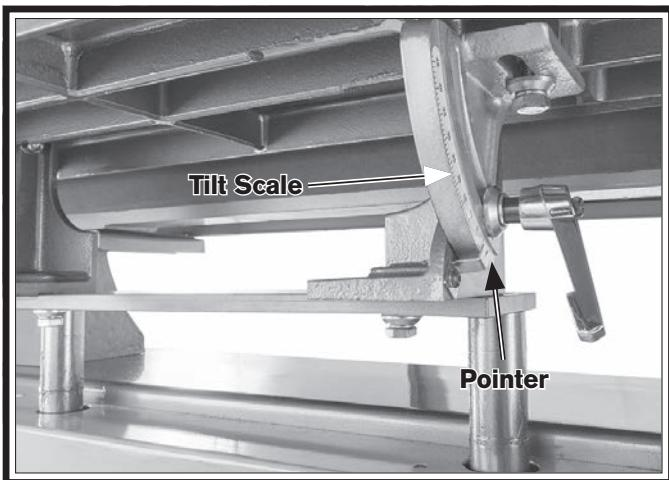

Figure 21. Main table tilt scale and pointer.
- 9.** Tilt main table until pointer on tilt scale indicates 0° (see **Figure 21**).